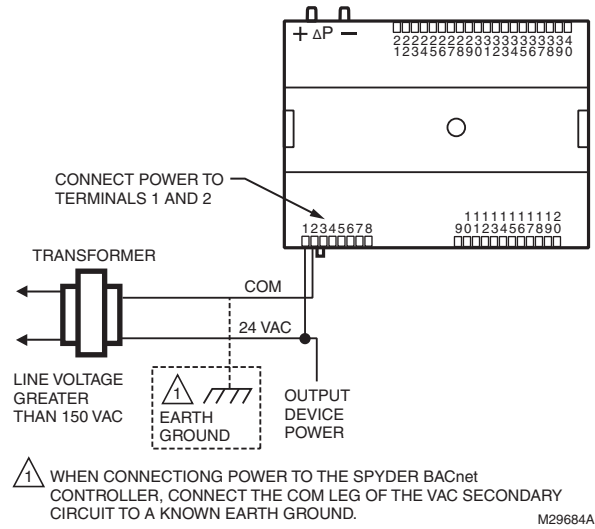
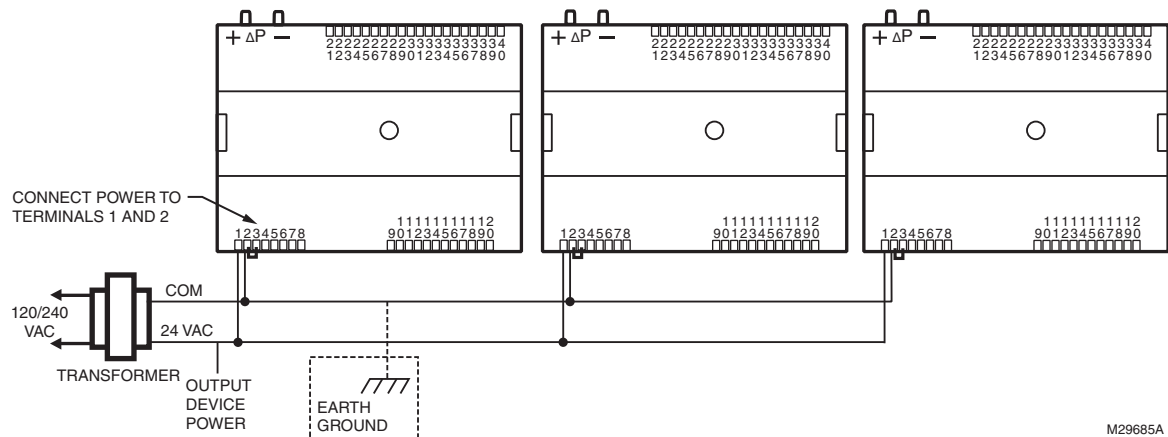

Fig. 9. Power wiring details for one controller per transformer.
Fig. 10. Power wiring details for two or more controllers per transformer.
- When multiple controllers operate from a single transformer, connect the same side of the transformer secondary to the same power input terminal in each device. The earth ground terminal (terminal 3) must be connected to a verified earth ground for each controller in the group (see Fig. 10 on page 9).
See Fig. 9–Fig. 10 beginning on page 9 for illustrations of controller power wiring. See Table 4 for VA ratings of various devices.
- For multiple controllers operating from a single transformer, the same side of the transformer secondary must be connected to the same power input terminal in each device. The earth ground terminal must be connected to a verified earth ground for each controller in the group (see Fig. 10 on page 9). Controller configurations are not necessarily limited to three devices, but the total power draw, including accessories, cannot exceed 100 VA when powered by the same transformer (U.S. only).
- See Fig. 9 on page 9 for controller power wiring used in UL 1995 equipment (U.S. only).
- Keep the earth ground connection wire run as short as possible (refer to Fig. 9–Fig. 10 beginning on page 9).
- Do not connect earth ground to the controller's digital or analog ground terminals (refer to Fig. 9 and Fig. 10).
must be connected to a verified earth ground for each controller in the group (see Fig. 10 on page 9).
Fig. 9 depicts a single controller using one transformer.
Connect terminal 2, (the 24 Vac common [24 VAC COM] terminal) to earth ground (see Fig. 9).
More than one controller can be powered by a single transformer. Fig. 10 shows power wiring details for multiple controllers.